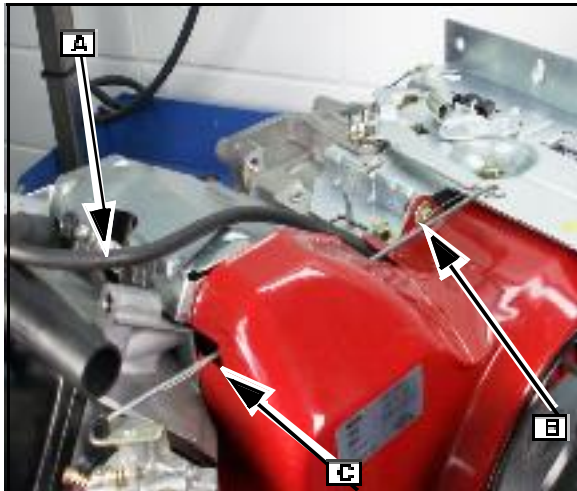

Fig. 34
9. Route the spark plug wire (A) and the governor links as shown and install the blower housing. Make sure there are no obstructions to the governor links at (B) and ([C] Fig. 34).